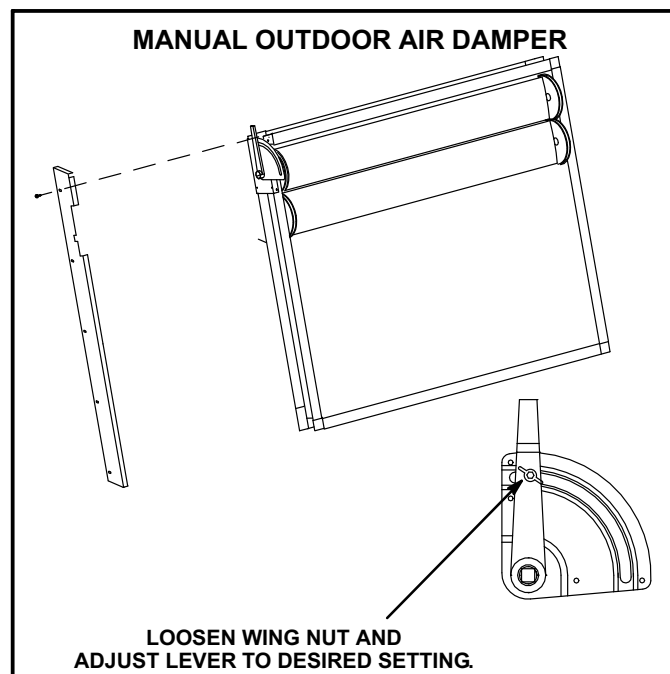
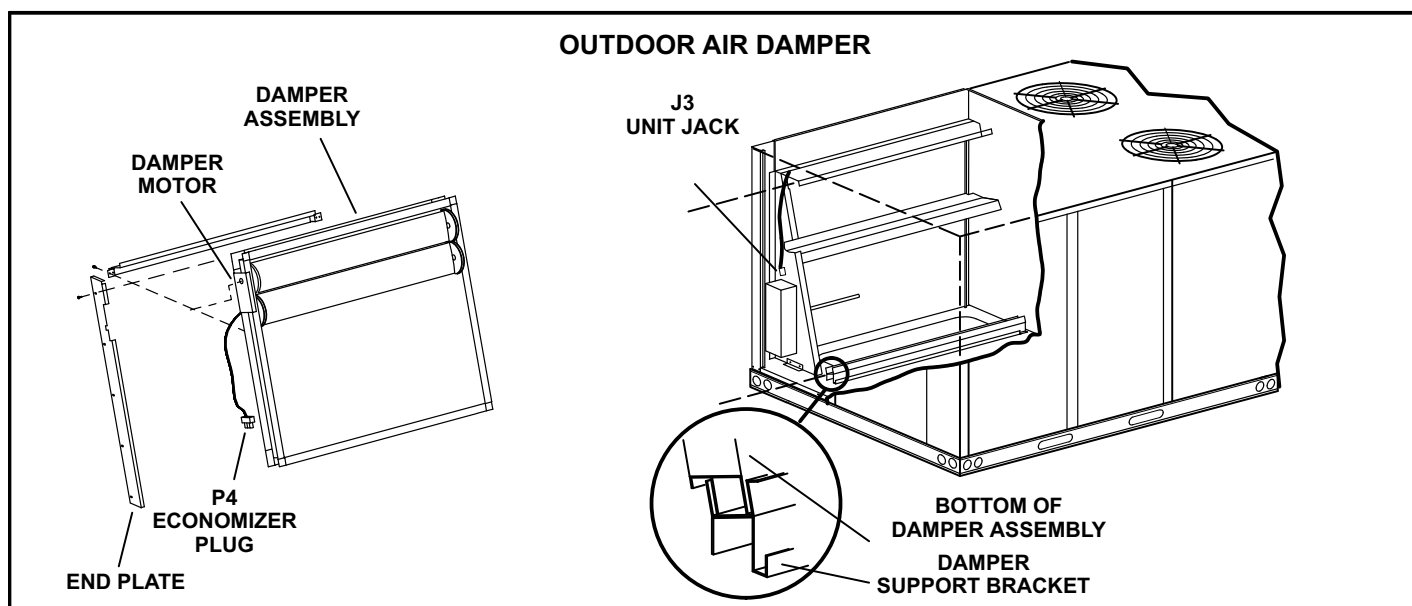

FIGURE 28
FIGURE 30
T1DAMP20C-1 used on TGA units consists of a set of dampers which may be manually or motor (M) operated to allow outside air into the system (see figure 30). Either air damper can be installed in TGA units. The motorized damper assembly opens to minimum position during the occupied time period and remains closed during the unoccupied period. Manual damper assembly is set at installation and remains in that position. See figure 28. Washable filter supplied with the outdoor air dampers can be cleaned with water and a mild detergent. It should be sprayed with Filter Handicoater when dry prior to reinstallation. Filter Handicoater is R.P. Products coating no. 418.